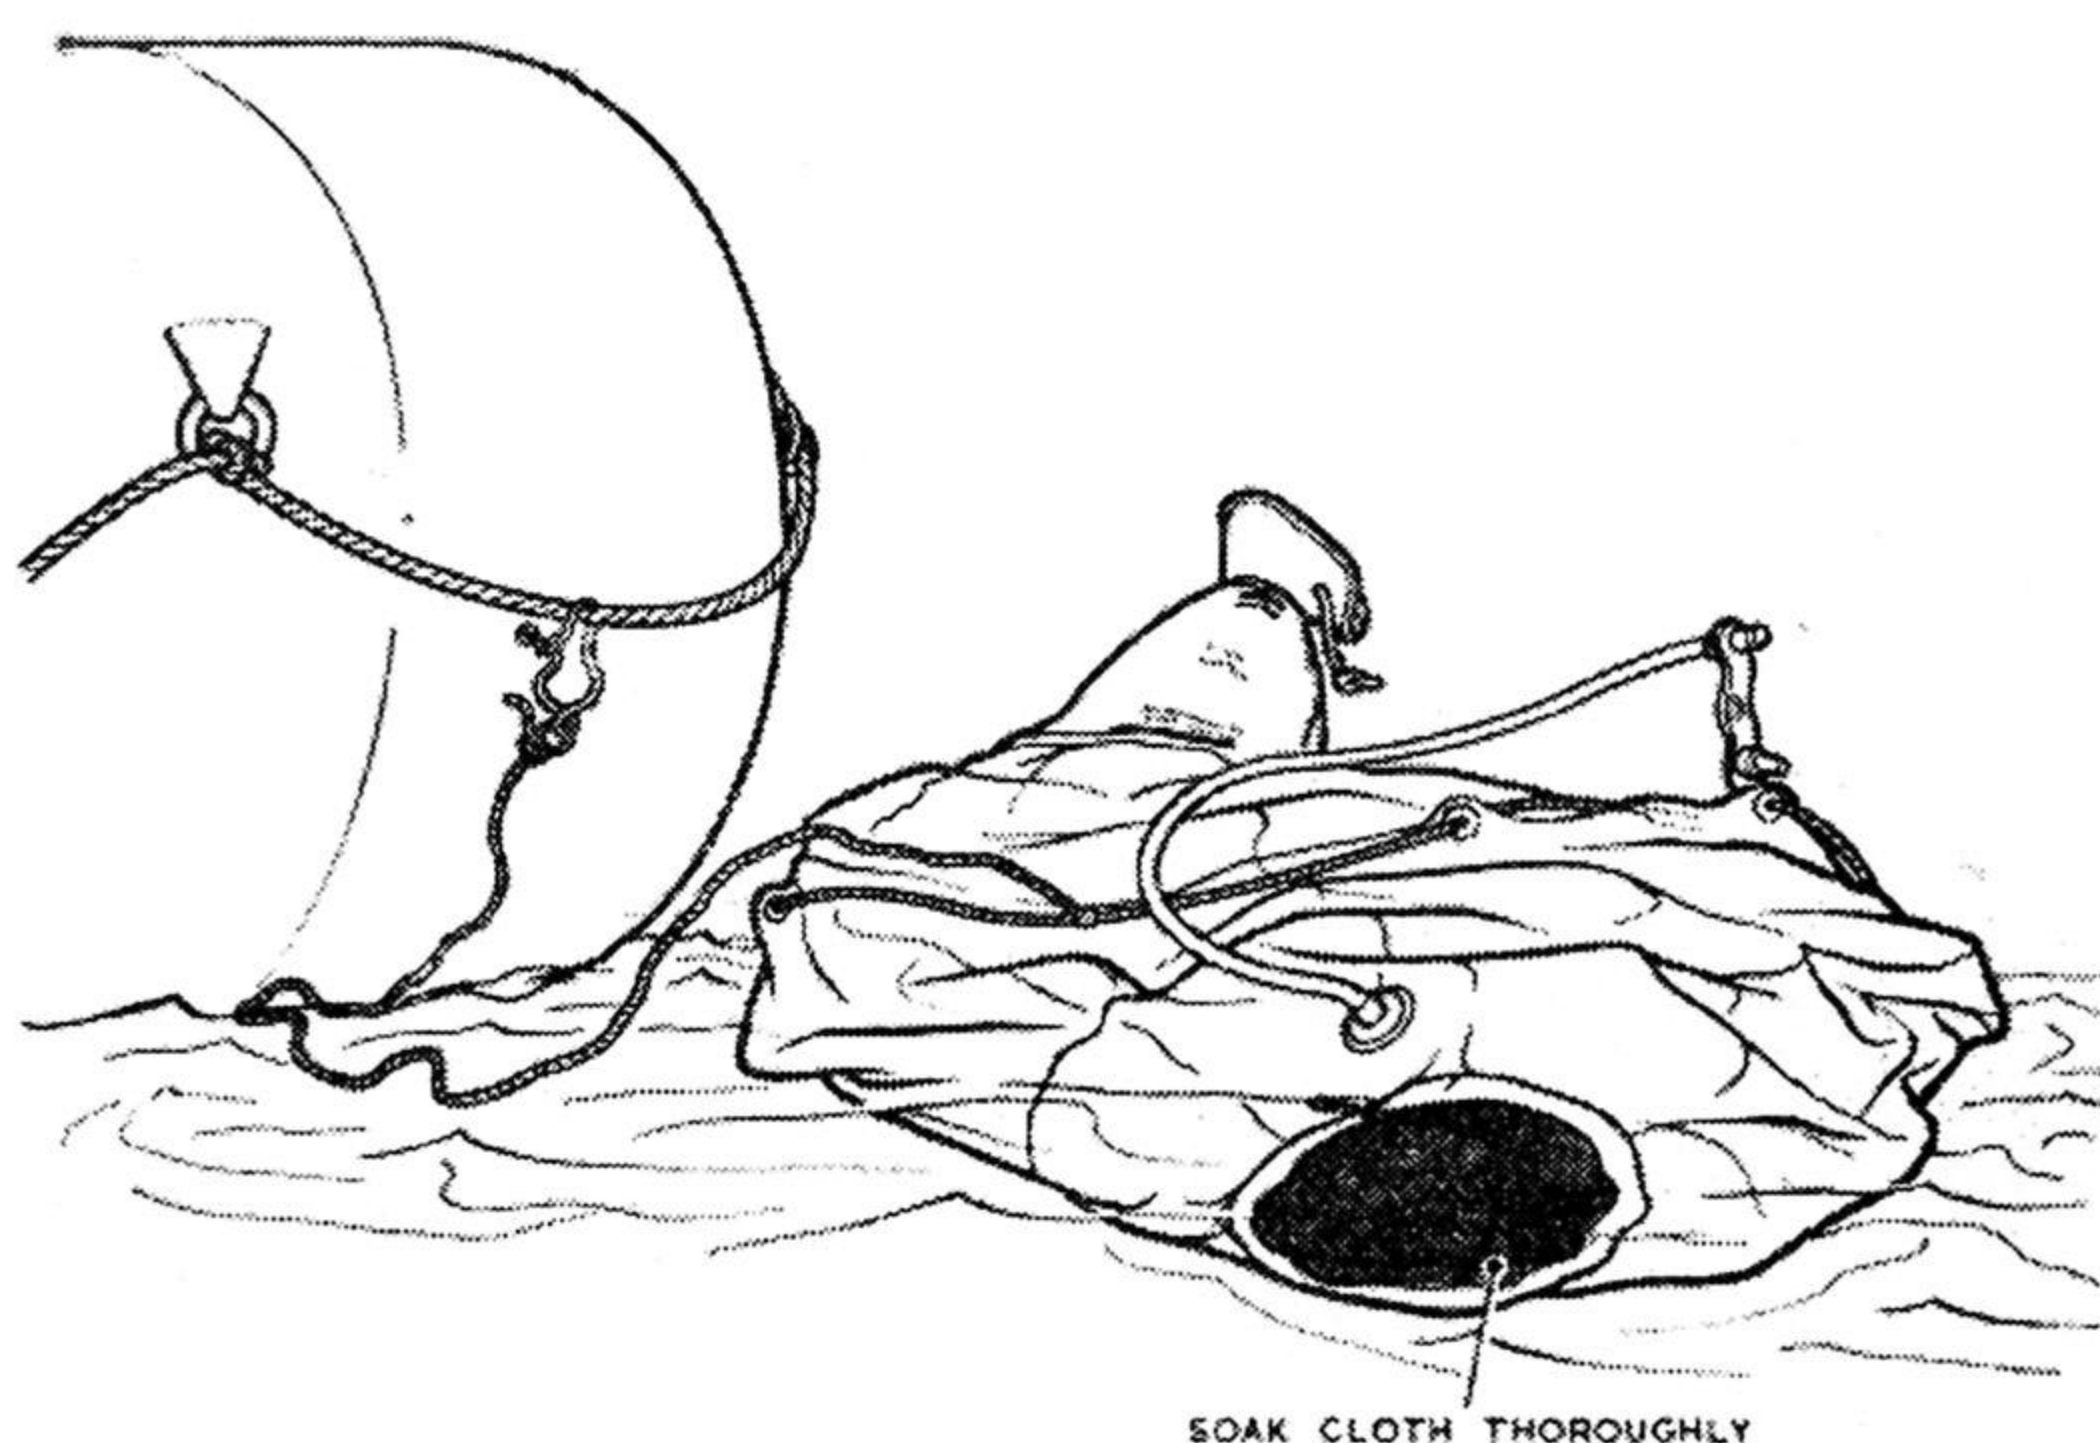
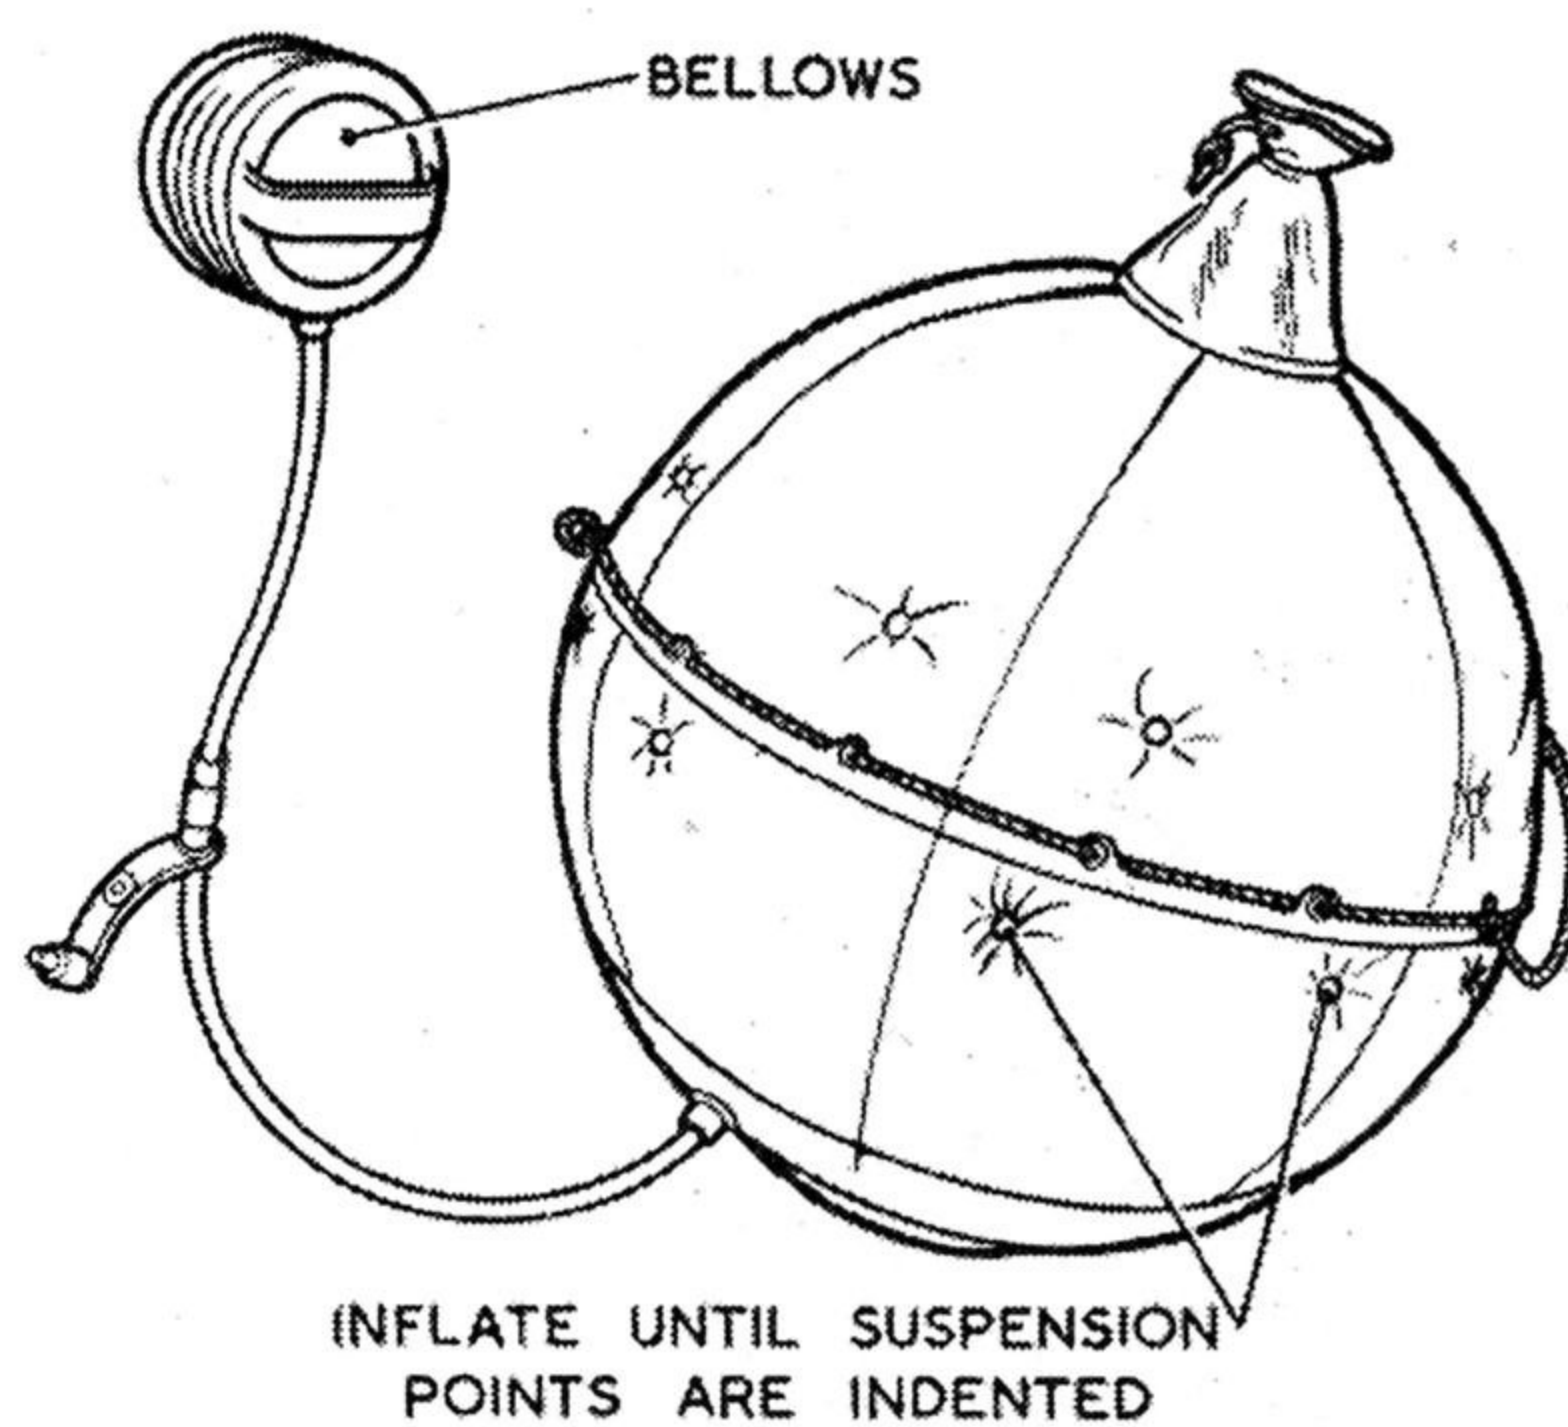

Fig. 8. Soaking fabric disc before inflating
Fig. 9. Inflating the Still
33. Soak the fabric disc at the bottom of the outer cover thoroughly (fig. 8) and then inflate the Still until the suspension points are indented (fig. 9); any excess pressure will be dispersed through the fabric disc. Inflation may be by mouth, or by an